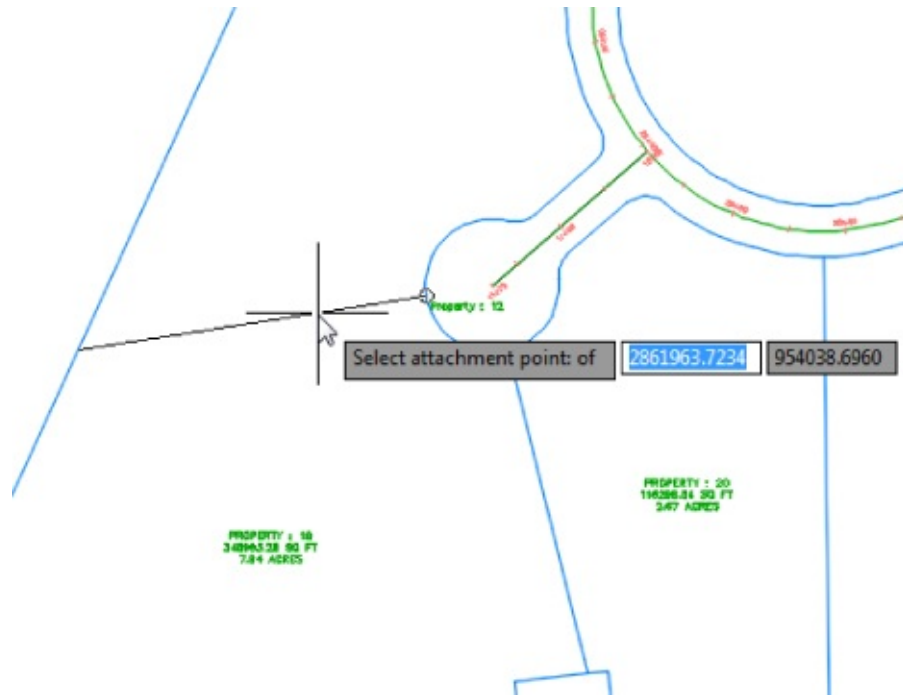

Figure 5.36 Use the Free Form Create tool to select an attachment point.
9. At the Select attachment point: prompt, pick near the point shown in Figure 5.36.